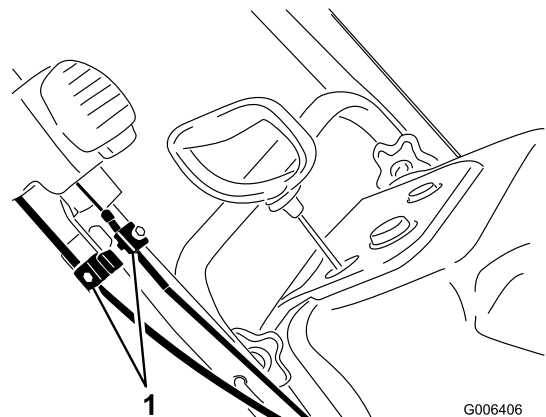

Figure 40
- Loosen the two Quick Shoot control cable clamps (Figure 40).